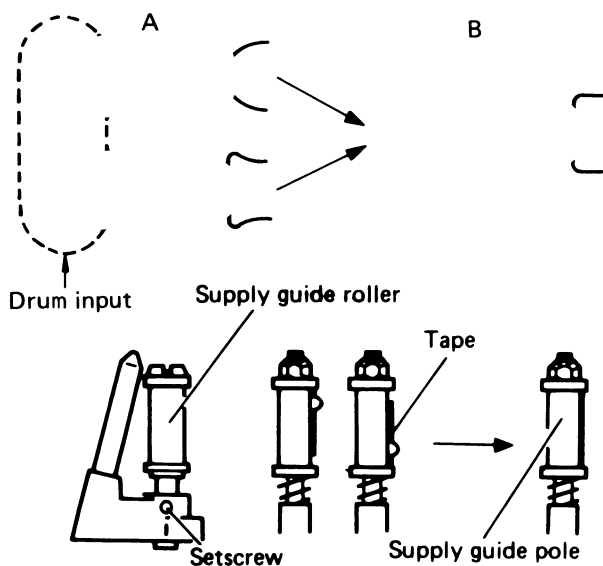

Fig. 18 Drum input adjustment
2. Refer to **Fig. 18**. Examples of incorrect waveform are shown by A.